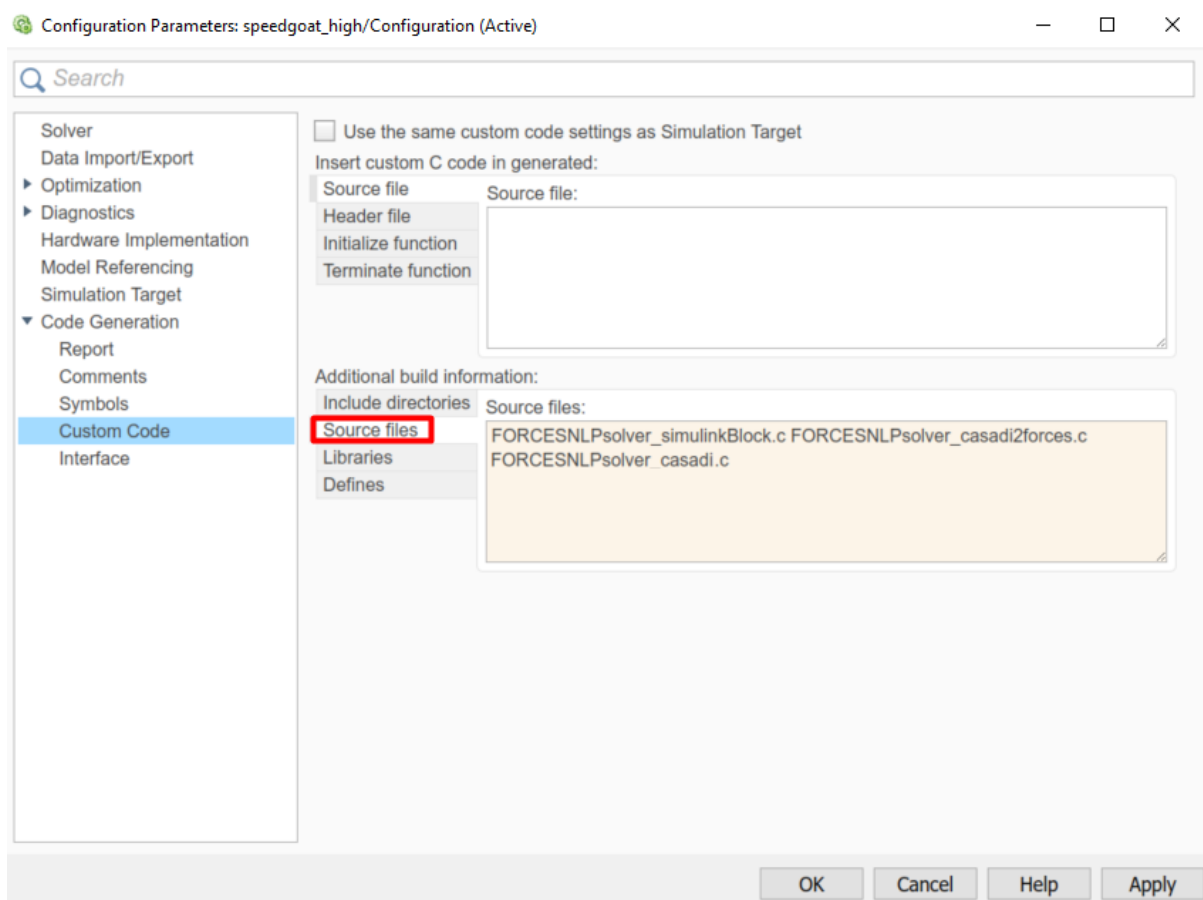

Figure 13.70: Add the source files used for the code generation.
11. (Figure 13.70) In the “Code Generation/Custom Code” tab, add the source files: